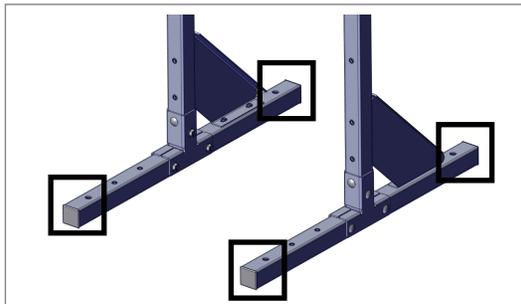

Fig 7. Install Screws/Anchors Through Rack Base.
5. (Recommended) Install four (4) screws and/or expansion anchors (field-supplied) through the base of the legs to prevent tipping potential (Fig 7).